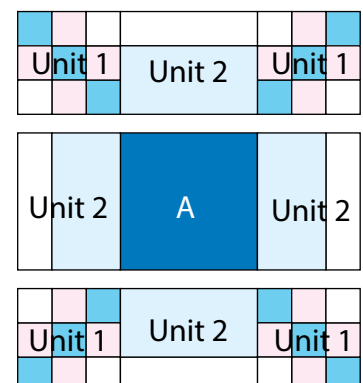

Fig. 7
7. Sew (1) Unit 2 strip to each side of (1) $4\frac{1}{2}$ " Fabric A square. Sew (1) Unit 1 block to each end of (1) Unit 2 strip. Repeat to make a second strip. Sew the strips to the top and to the bottom of the Fabric A strip to make (1) Block One square (Fig. 7). Pay attention to orientation of the Unit 2 strips. Repeat to make (5) Block One squares total.